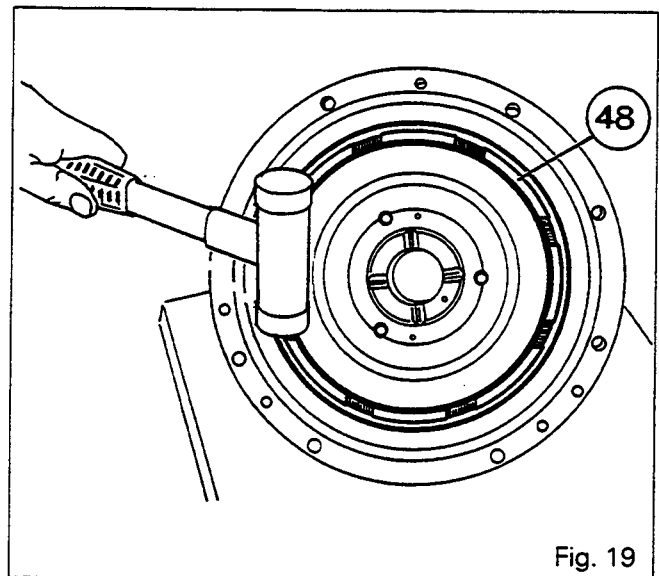

Fig. 19
60. Fit seals (22) and (23) to piston (48).
63. Tap piston (48) gradually home into the cover by working progressively round its face with a plastic-faced mallet (Fig. 19).